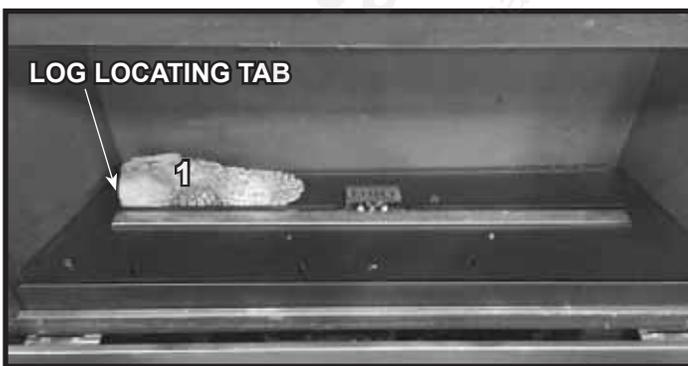

Figure 4. Place Log #1
- Install Log #1 by locating the back left tab behind the burner. Place the log so that the left end is contacting the tab and the front of the log is touching the back sheet metal flange behind the burner. See Figure 4.